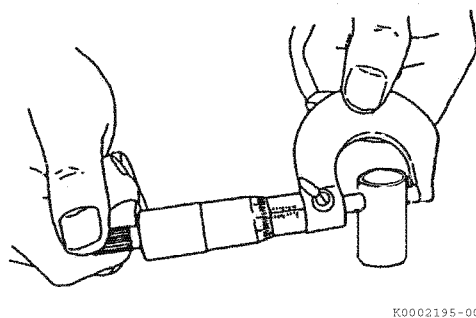

Figure 6-70
- Measure the outside diameter of the tappet stem (**Figure 6-70**). Record the measurements. *See Tappet on page 6-9 for the service limit.*